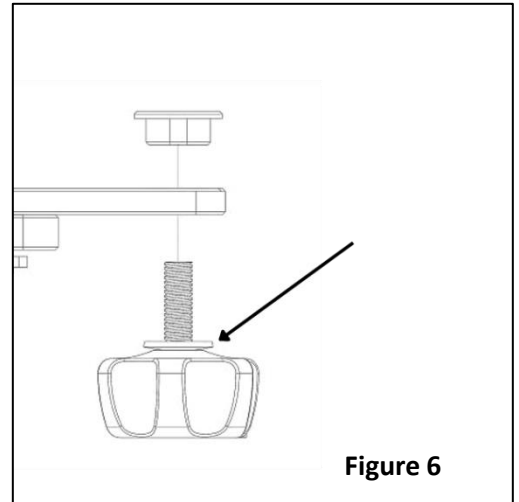

Figure 6
- 8) Ensure the conical spring nut is fully seated at the base of the knob (Figure 6). This will make your life much easier during the rest of the installation and will ensure the proper clamping force is applied. It's pretty important.